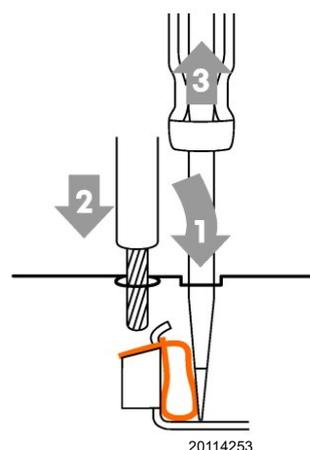

Fig. 31
Type "B" terminal opening (Fig. 31)
- Insert the previously stripped cable and remove the screwdriver. Make sure the cable is securely fastened Fig. 31.